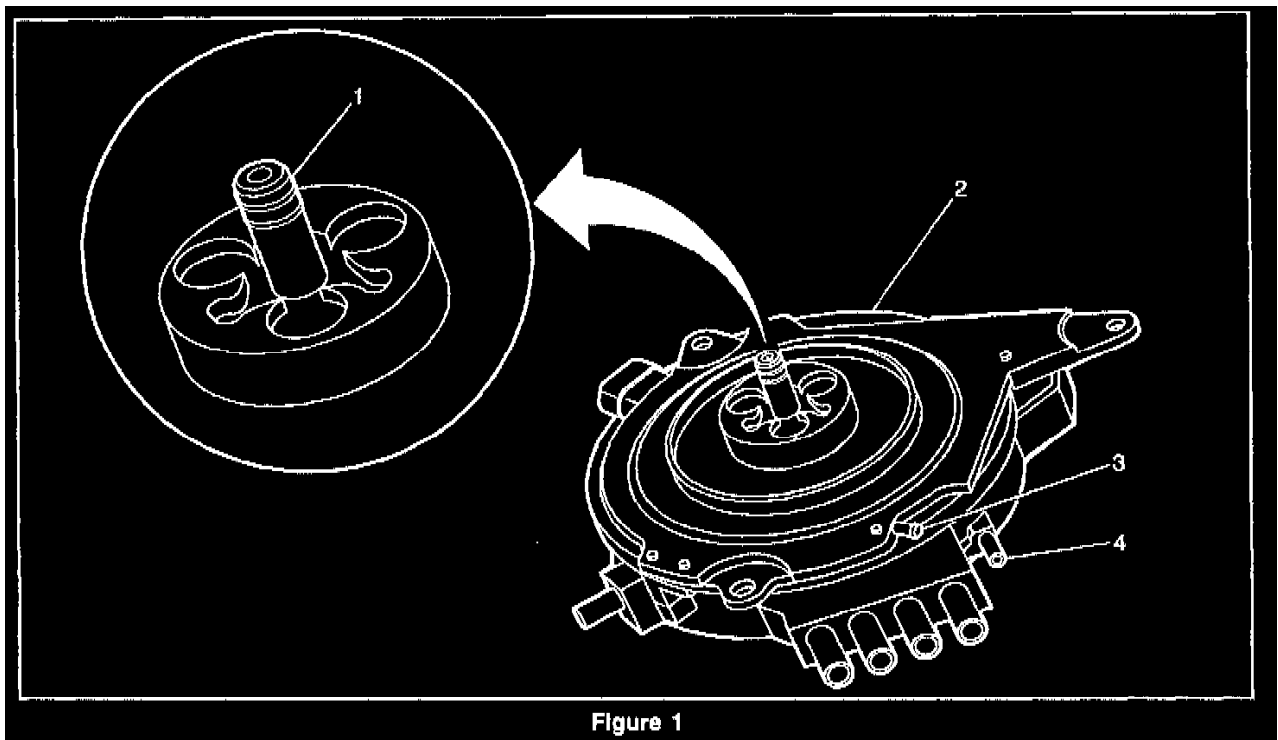

Figure 1
1. Opti-Spark Distributor II (Pin Drive - WITH positive vent system) can be identified by the intake manifold vacuum hose connection (3), air intake duct hose connection (4), or non-splined pin drive (1). Refer to Figure 1.